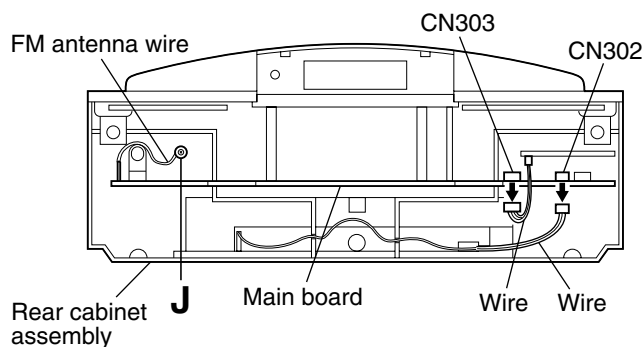

Fig.8
2. Disconnect the wires from the connectors CN302 and CN303 on the main board at the front of the rear cabinet assembly. (See Fig.8.)